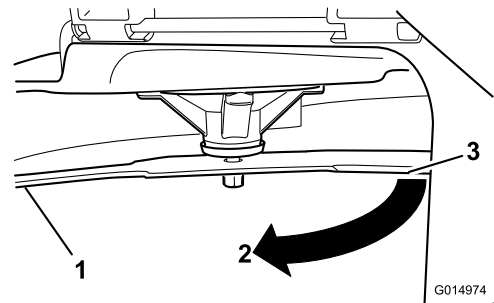

Figure 55
3. Measured distance between blade and the surface (A)
4. Rotate the same blade 180 degrees, so that the opposing cutting edge is now in the same position (Figure 55).